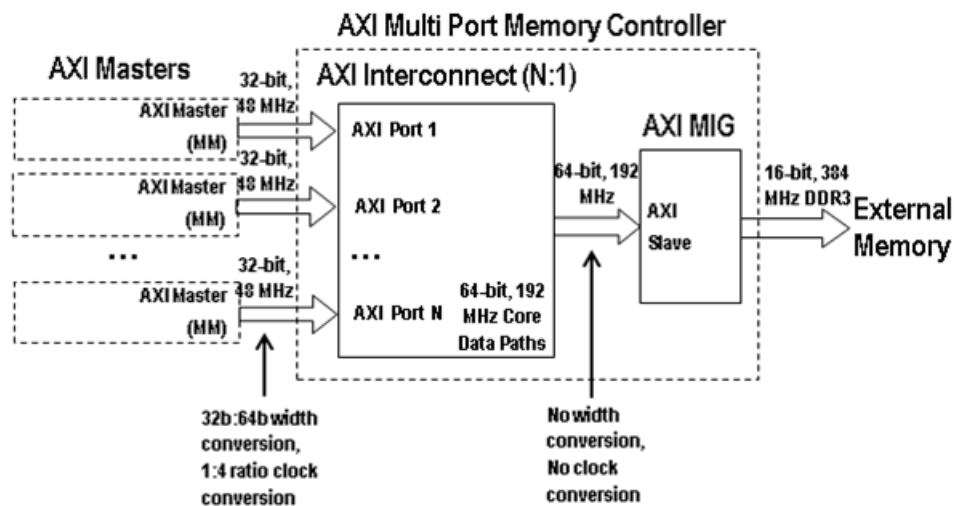

Figure 6-2: AXI Interconnect Master Side Configuration Block Diagram
- Is especially useful in situations similar to the example design, shown in Figure 6-2, page 128, where the master has a relatively lower bandwidth than the slave (memory controller).